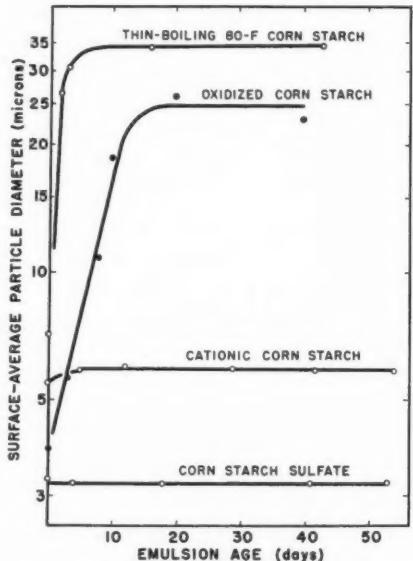

Fig. 13. Storage stability of oil-in-water emulsions in 1% pastes of various modified starches.
at these laboratories, the stability of such oil-in-water emulsions is evaluated by the rate of coalescence of the dispersed oil droplets on prolonged storage (4). A red dye is first dissolved in the oil, which is then dispersed in the starch paste by pressure-homogenization. The finer the size of the dispersed oil droplets, the lighter is the color of the emulsion. It has been found experimentally that the logarithm of percentage light reflected by the emulsion gives a straight line when plotted against log of average droplet size. Hence the red emulsion is illuminated under blue light (450 m μ) in a reflectance spectrophotometer, and the percentage reflectance calculated in terms of droplet size. As shown in Fig. 13, thin-boiling corn starch is a rather poor emulsifying agent for paraffin oil, allowing rapid coalescence of oil droplets to a limiting diameter of 35 microns, at which point the system stabilizes. An oxidized starch provides somewhat better stability, but it cannot compare with such products as a cationic corn starch containing substituent quaternary groups, or an anionic corn starch sulfate. The stability in these two instances is attributed to the high ionic charge on the starch colloid.